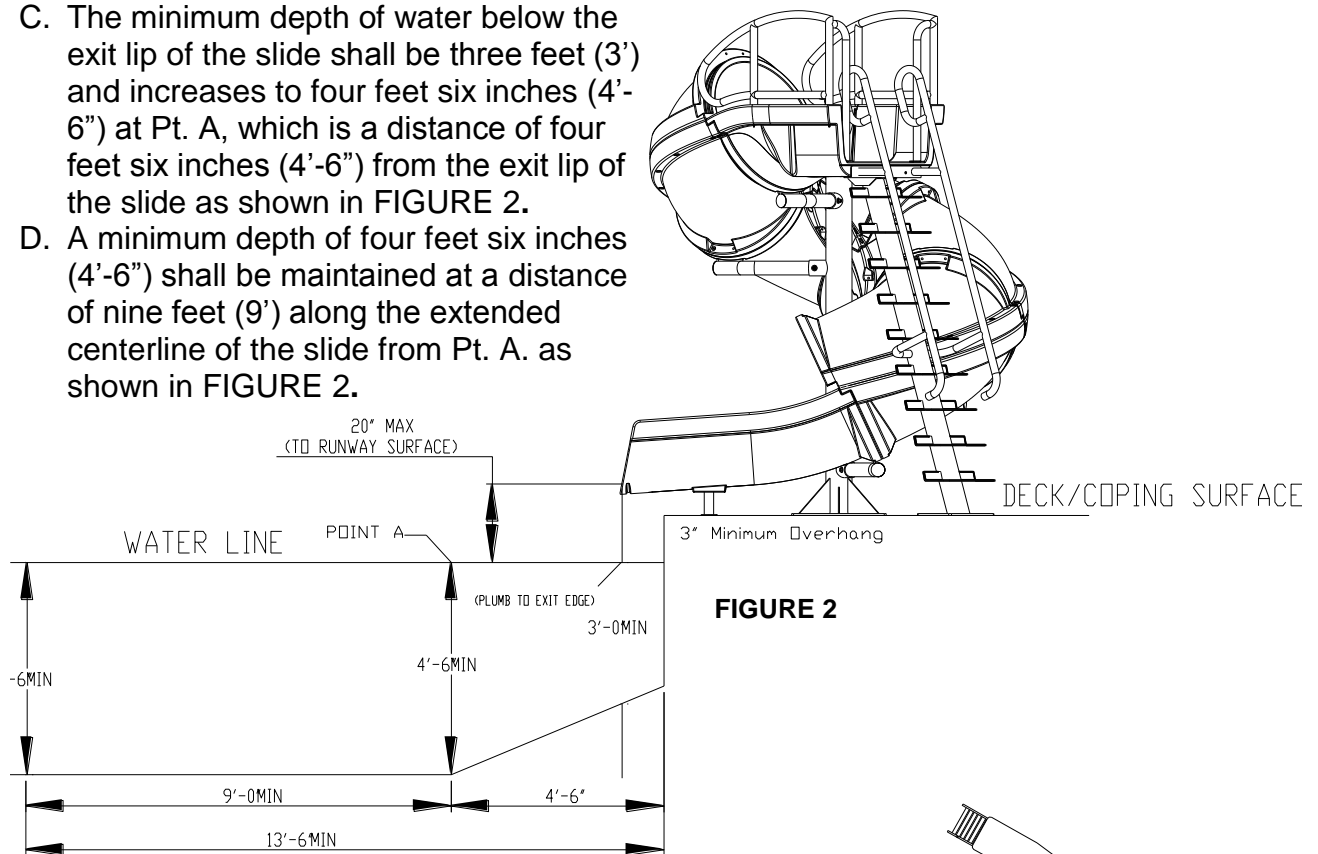

FIGURE 2
5. Observe the position of the exit of the slide as shown in Figures 2, 3 and 5 on pages 6 and 7.
1. The critical dimensions for placement of the Vortex are as shown in FIGURES 2 and 3.
- A. The slide exit runway surface shall not exceed twenty inches (20") above the water surface as shown in FIGURE 2.
- C. The minimum depth of water below the exit lip of the slide shall be three feet (3') and increases to four feet six inches (4'-6") at Pt. A, which is a distance of four feet six inches (4'-6") from the exit lip of the slide as shown in FIGURE 2.
- D. A minimum depth of four feet six inches (4'-6") shall be maintained at a distance of nine feet (9') along the extended centerline of the slide from Pt. A. as shown in FIGURE 2.